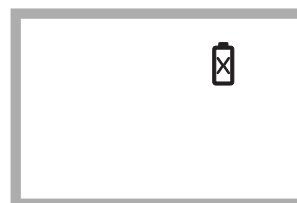

Figure 7
1. When  flashes, it indicates that the power is low, but you can continue to measure; replace battery when "" **remains displayed** in the **upper right** corner of LCD display as shown in Figure 7.